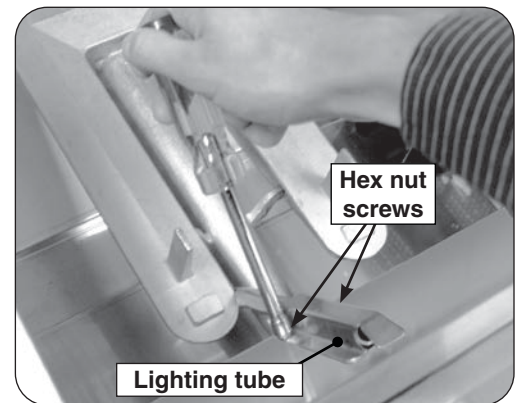

Fig. 1-1 Remove the flash tube
4. Remove the lighting tube. Remove the two hex nut screws using the 1/4" hex nut driver, pull the tube directly away from the grill fire wall and off the mounting pin and igniter electrode (see Fig. 1-1).